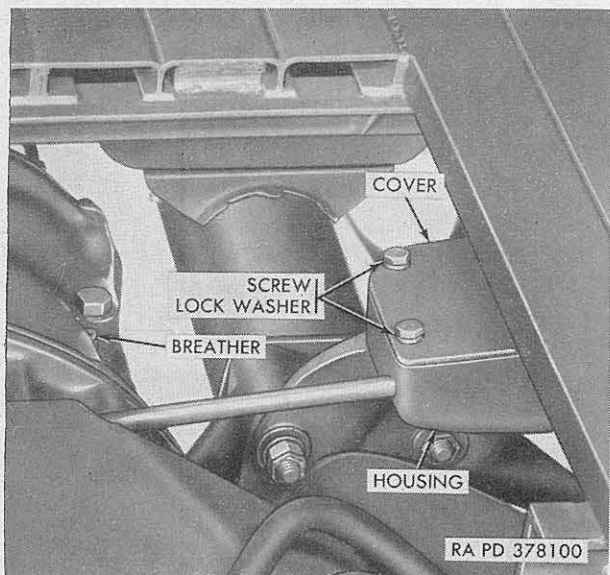
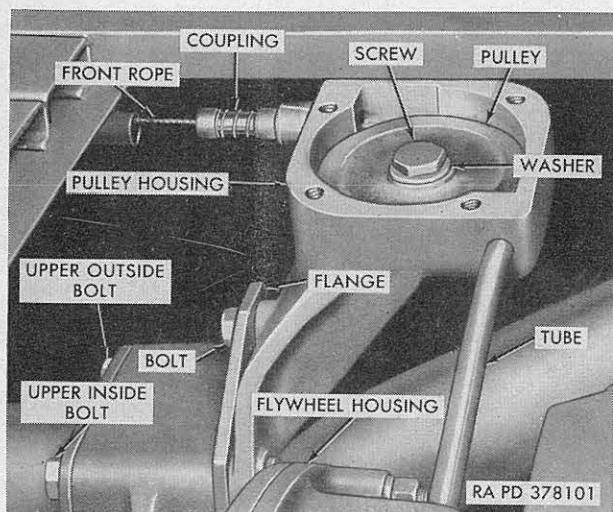

Figure 29. Starter rope pulley housing.
Figure 30. Starter rope pulley housing—cover removed showing pulley.
*j.* Remove nut, lockwasher and bolt (fig. 30) securing starter rope pulley housing to top of front flange of rear bed support. Remove locknuts, hex nut, lockwasher and plain washer from upper inside bolt passing through frame tube flanges and rear axle. Remove locknut from upper outside bolt passing through frame tube flanges and rear axle, and unscrew bolt from pulley housing. Pull tube with pulley housing out of flywheel housing, and lay pulley housing and tube on top of engine.
*l.* Move starter rope pulley housing (fig. 30) with attached starter rope tube to right and
away from flywheel housing. Attach a clamp to starter rear rope between flywheel housing and tube to prevent rope being pulled back into flywheel housing when coupling is removed. Remove four hex-head screws (fig. 29) with lockwashers securing starter rope pulley housing cover to housing and remove cover and gasket. Remove screw (fig. 30) and plain washer securing pulley to housing and remove pulley. Move rear sleeve of coupling forward and remove coupling from front end of rope. Pull pulley housing and tube off rope and remove tube from
a. Pull starter rope out of starter housing until coupling on end of rope is about 18 inches from housing, and install clamp on rope to prevent it being drawn back into housing by starter spring. Remove coupling from ball on end of rope. Push rope through starter rope tube (fig. 30), into starter rope pulley housing through hole in left side, out of housing through hole in front, and install coupling on end of rope. Work pulley into pulley housing with starter rope in groove of pulley and secure with plain washer and screw. Position gasket and starter rope pulley housing cover (fig. 29) on top of pulley housing and secure with four  $\frac{1}{4}$ -20NC x  $\frac{3}{8}$  hex-head screws and lockwashers. Remove clamp previously installed on rope and allow starter spring to pull rope back until coupling contacts front of pulley housing.
d. Position starter rope pulley housing (fig. 30) against rear face of flange on front end of rear bed support, with starter rope tube secured between counterbores in flywheel housing and pulley housing. Screw upper outside  $\frac{3}{8}$ -24NF x  $3\frac{1}{2}$  bolt passing through frame tube flanges and rear axle into starter rope pulley housing, and install locknut. Install plain washer, internal teeth lockwasher, hex nut, and locknut on upper inside  $\frac{3}{8}$ -24NF x  $3\frac{1}{2}$  bolt passing through frame tube flanges, rear axle, and pulley housing. Install  $\frac{3}{8}$ -24NF x  $1\frac{3}{8}$  bolt se-